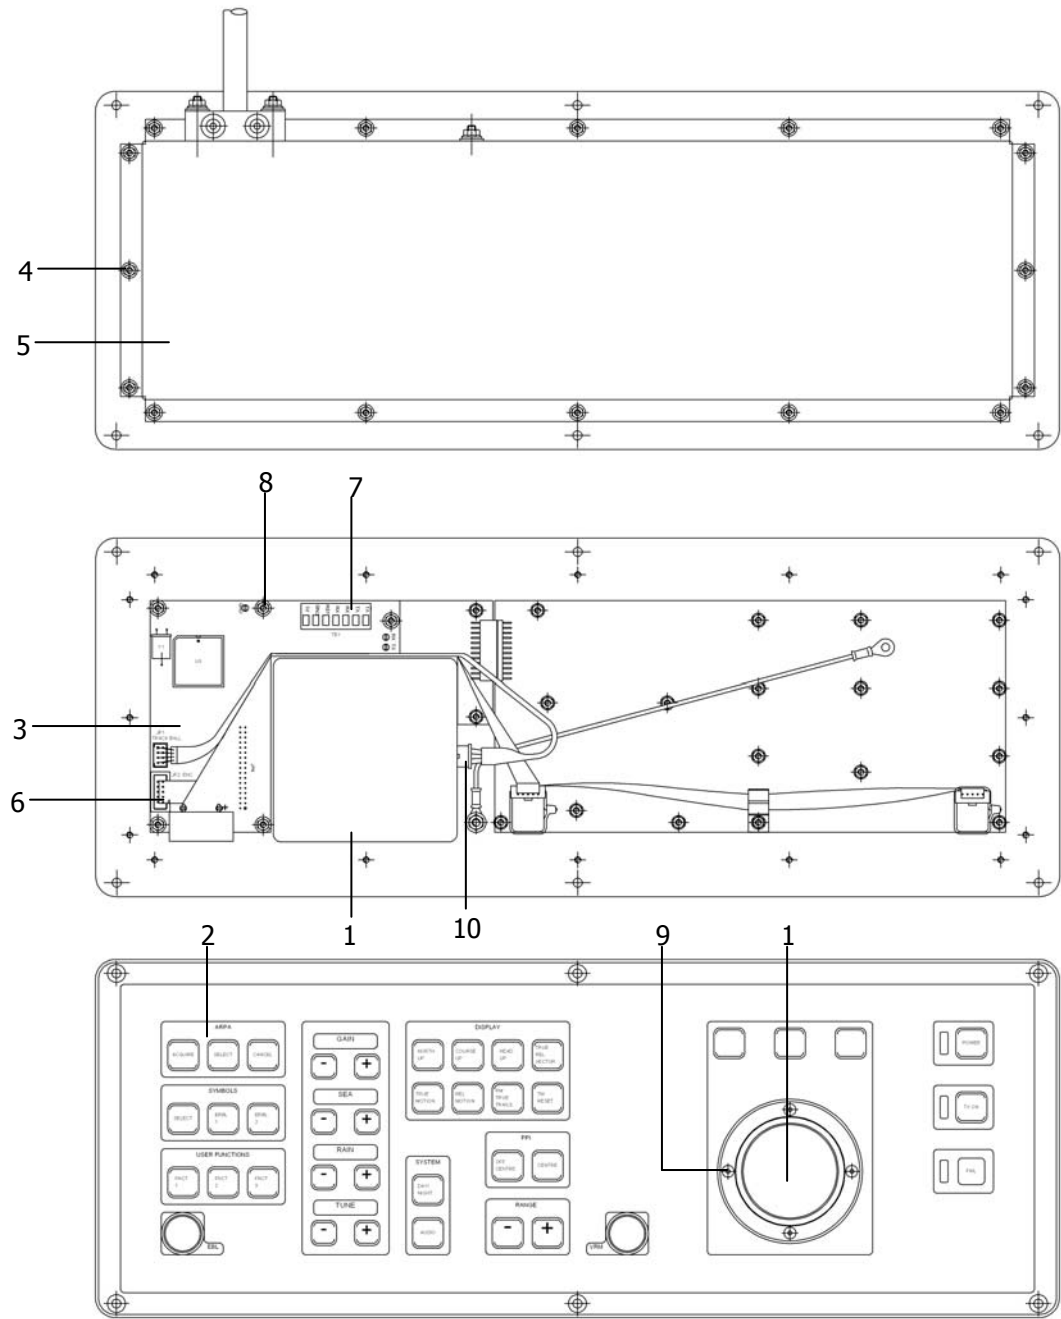

Figure 8.8.4 Keyboard Unit
b) Removing (fig.8.8.4)
1. Use a socket wrench to loosen and remove the nuts (pos. 4) fixing the cover (pos. 5).
b) Removing (fig. 8.8.4)
2. Remove the connectors (pos. 6) of the board (pos. 3).
3. Remove the TB wires (pos. 7). Take note of their position.
4. Use a socket wrench to loosen and remove the nuts (pos. 8) fastening the board.
2. Remove the connector (pos. 10) of the Trackball (pos. 1).
3. Use a screwdriver to loosen and remove the screws (pos. 9) fastening the Trackball.
Table 8.9.2 - List of Items of Expanded Control Panel (Figure 8.8.4)